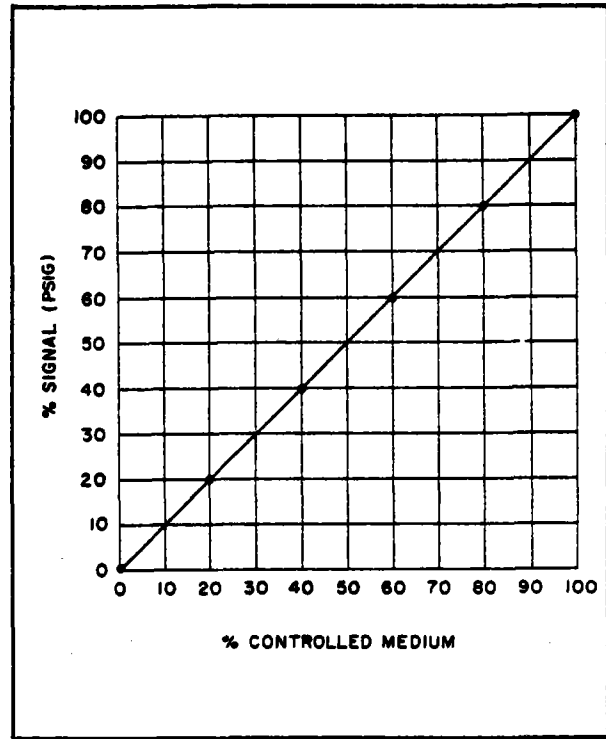

FIGURE 16 - Desired Control
2. Determine exact controlled medium versus control signal pressure characteristic desired (Figure 16).